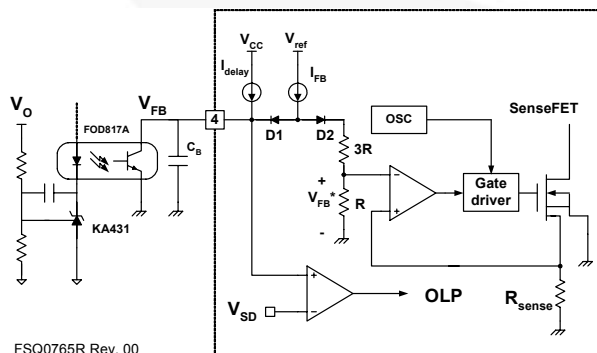

Figure 32. Pulse-Width-Modulation (PWM) Circuit
6. Burst Operation: To minimize power dissipation in standby mode, the FPS enters burst-mode operation. As the load decreases, the feedback voltage decreases. As shown in Figure 32, the device automatically enters burst-mode when the feedback voltage drops below V_{BURL} (350mV). At this point, switching stops and the output voltages start to drop at a rate dependent on standby current load. This causes the feedback voltage to rise. Once it passes V_{BURH} (550mV), switching resumes. The feedback voltage then falls and the process repeats. Burst-mode operation alternately enables and disables switching of the power SenseFET, thereby reducing switching loss in standby mode.